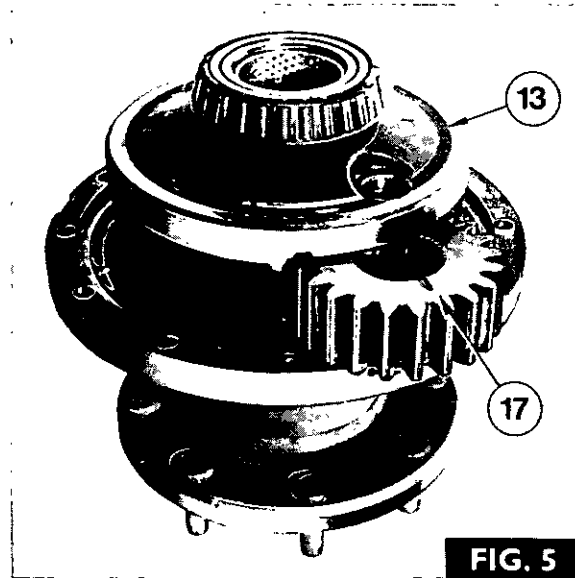

FIG. 5
6. Fig. 5. Withdraw the sun gear (17) through the wide aperture in the hub (13).